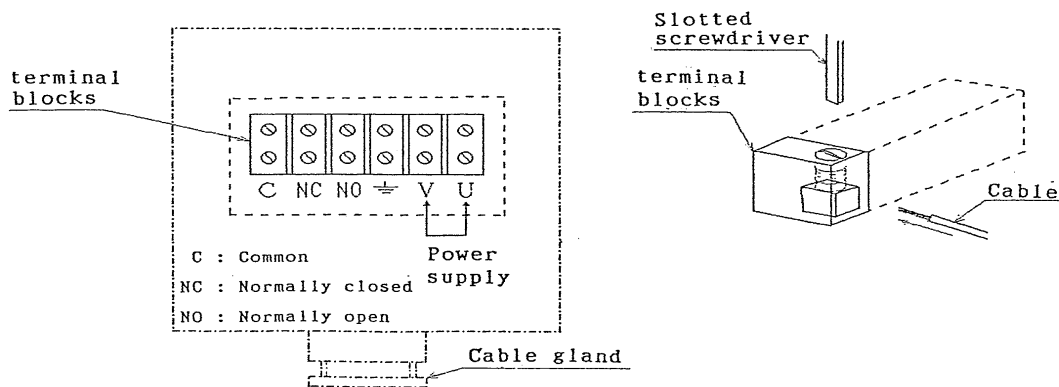

Fig. 4
(1) Prepare a 4- or 5-conductor vinyl-insulated vinyl-sheathed cable. The cable finished outside diameter should be between 8 to 11mm(0.31 to 0.43 inch) and conductors should be between 0.5 to 3.5mm² (equivalent 20 to 12AWG).
(2) Remove approximately 100mm(3.94 inch) of cable sheath from the end of the cable and approximately 10mm(0.39 inch) of conductor sheath.
(3) Check that the cable gland is pointing down.
(4) Remove the housing cover (loosen the 2 screws).
(5) Bring the cable into housing.
(6) Connect cables to the terminals. See Fig. 4.